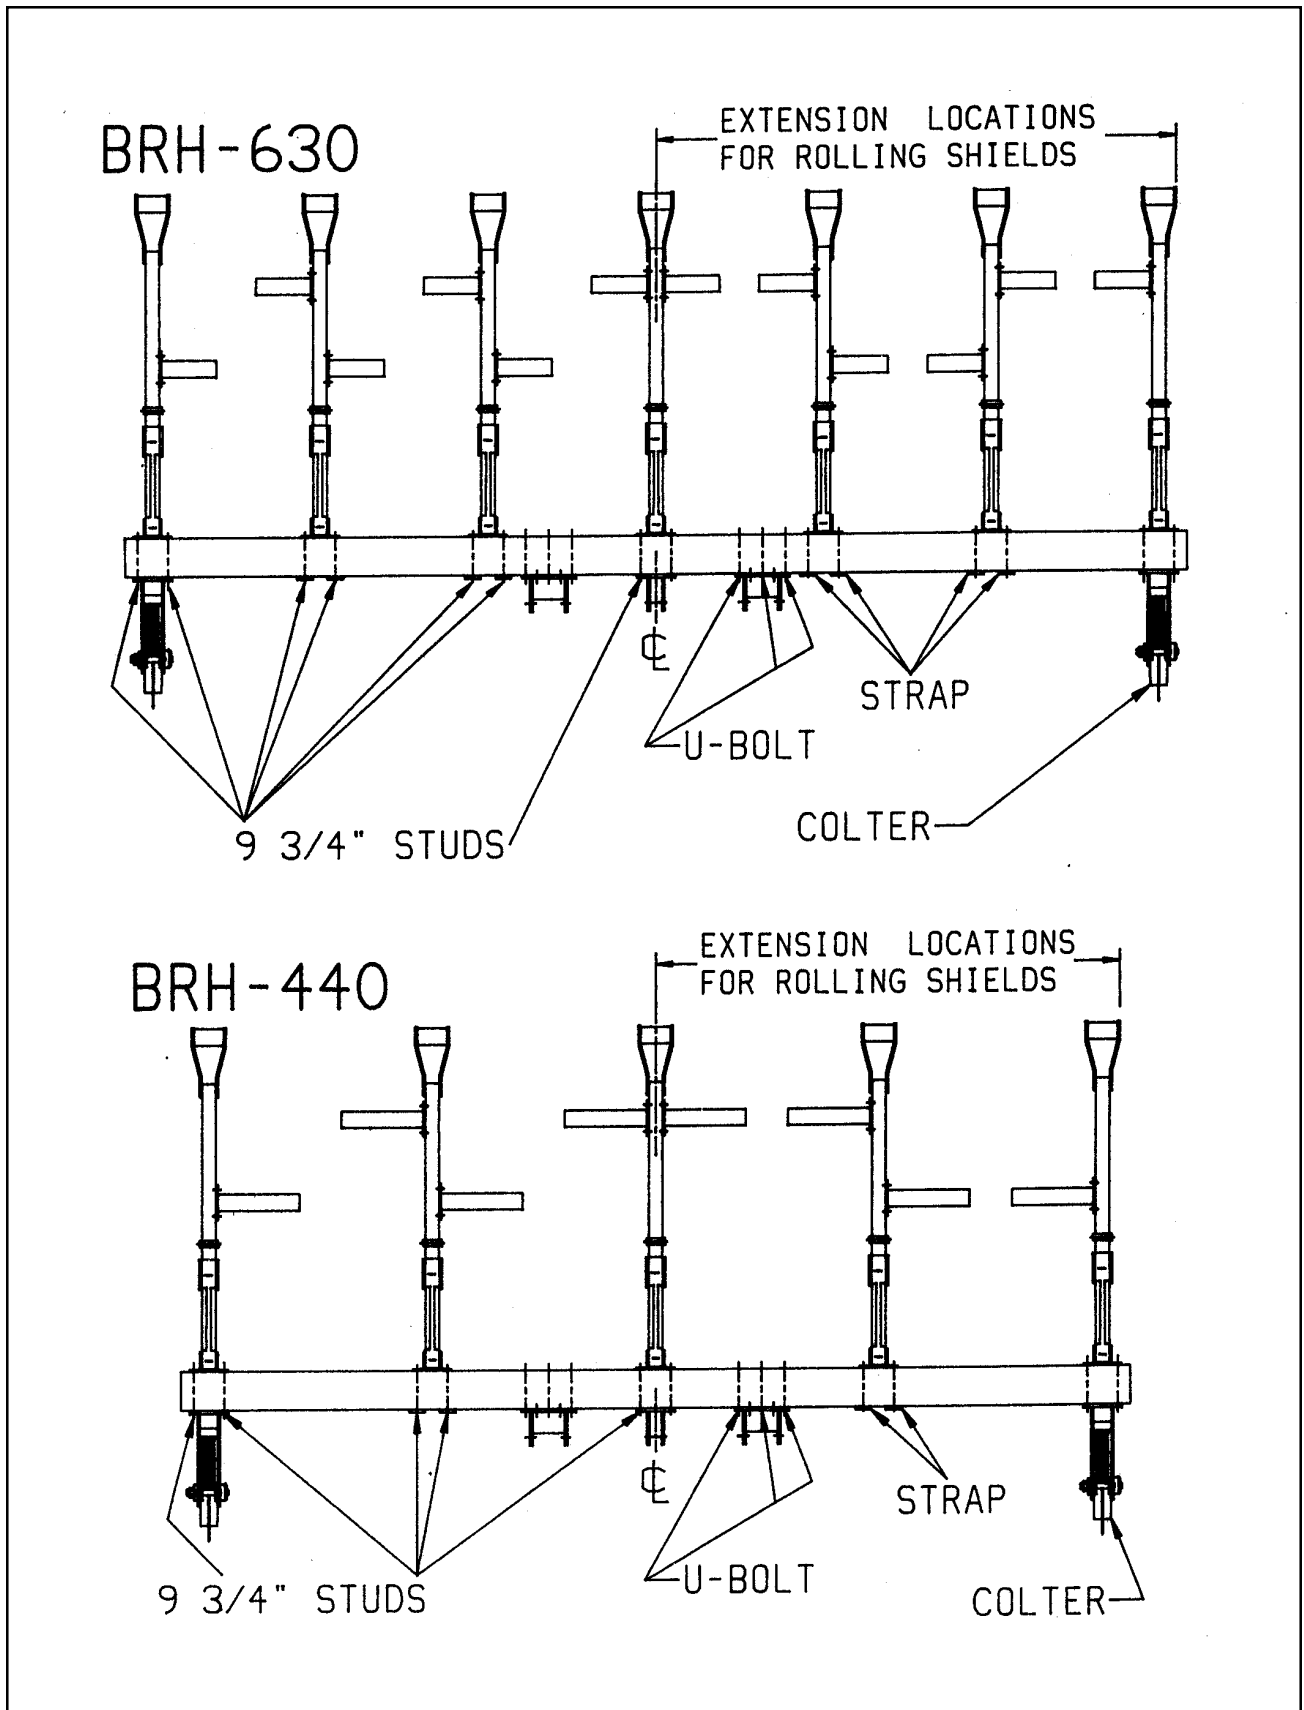

FIGURE 18
5. Clamp the remaining gang assemblies to the toolbar, centering them on the marks previously made. Use studs as mentioned above. Use 5/8" x 3" x 7-1/2" straps at all locations except where colter assemblies are used. See Figure 18.
6. Attach colters to the gangs just outside of the tractor rear wheels. If frame gage wheels are used, they should be located on the gangs just outside of the colters. See Figure 18.
8. Install shank extensions using 1/2" u-bolts, lock washers, and nuts. Figure 18 shows suggested pattern.